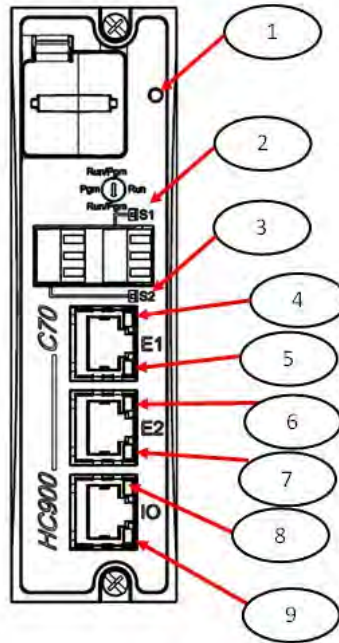

Figure 89 – LED Indicators on Controller CPUs (See Table 26)
When the Controller Status LED (Figure 89 on page 168, item 1) is flashing red, consult Table 27.